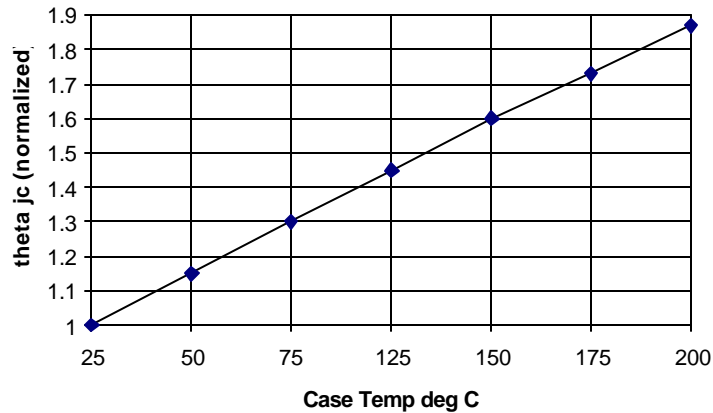

Figure 1 Approx. θ_{jc} for combined resistance of Si and BeO
1.1. For accurate measurements of input and output power, Polyfet uses a pair of electronic wattmeters of the thermoelectric type. These wattmeters and associated heads are mounted in a shielded enclosure along with the associated switches, bi-directional couplers, attenuators and loads. A typical measurement set-up is illustrated, Fig. 1. below.
2. Description of Figure 1
would be some 25% higher. See Fig 1. below.